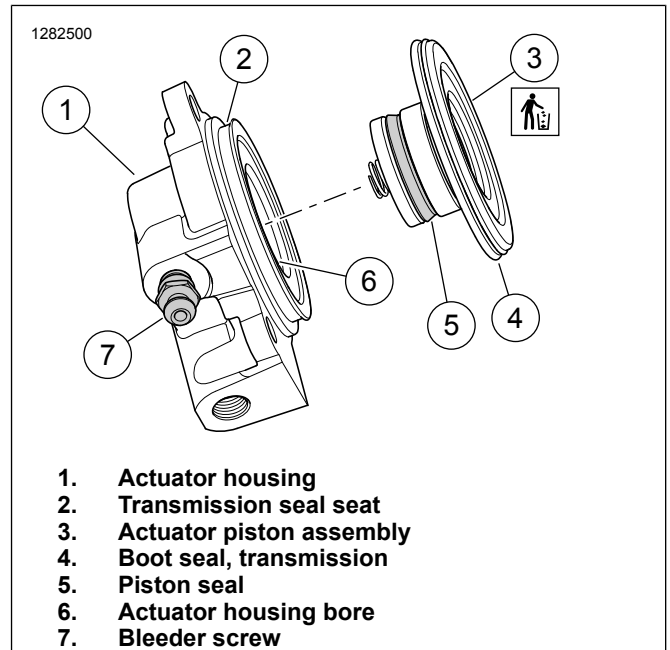

Figure 3. Secondary Actuator Assembly
1. Refer to Figure 3. Remove the actuator piston assembly (3).
- b. Refer to Figure 3. Remove the transmission seal boot from the transmission seal seat (2).
- c. Remove piston assembly from actuator housing (1).
2. Refer to Figure 3. Clean actuator.
**Do not touch pre-lubed piston seal (5) when removing from packaging.**
2. Refer to Figure 3. Remove **new** actuator piston assembly (3) from packaging.
- a. Align **new** actuator piston assembly squarely to the actuator housing bore (6).
- c. Refer to Figure 3. Install the transmission boot seal (4) around the transmission seal seat (2).
- b. Refer to Figure 3. If hold-in test continues to fail, remove actuator piston assembly (3) and inspect piston seal (5) and actuator housing bore (6). Refer to Section Clean and Inspect.